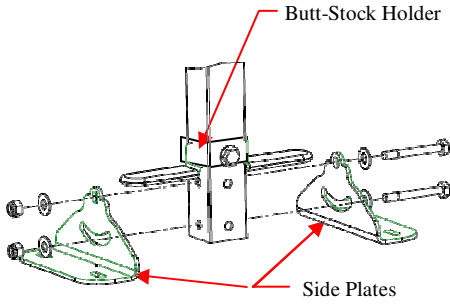

FIGURE 1
- Attach two side plates to gun holder using the 5/16-18UNC Hex Bolts, nuts, and washers. See Figure 1. Use the 5/16-18 UNC Hex Bolt, nut, and washer to secure Butt Stock Holder to outside of upper hole in square tube. See Figure 1.